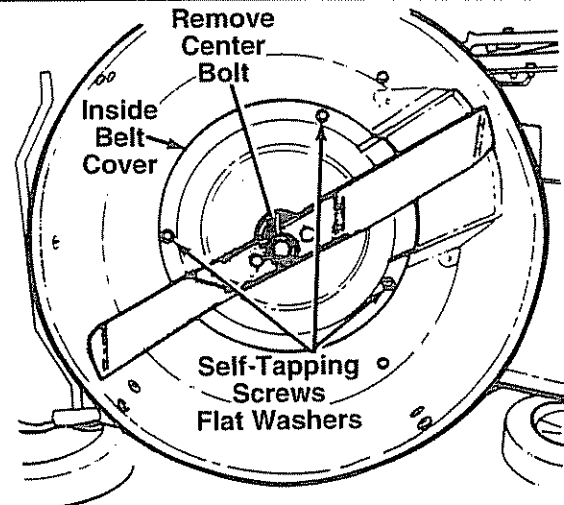

FIGURE 16.
- Remove the center bolt which secures the blade to the crankshaft. See figure 16. Remove the blade and blade adapter.